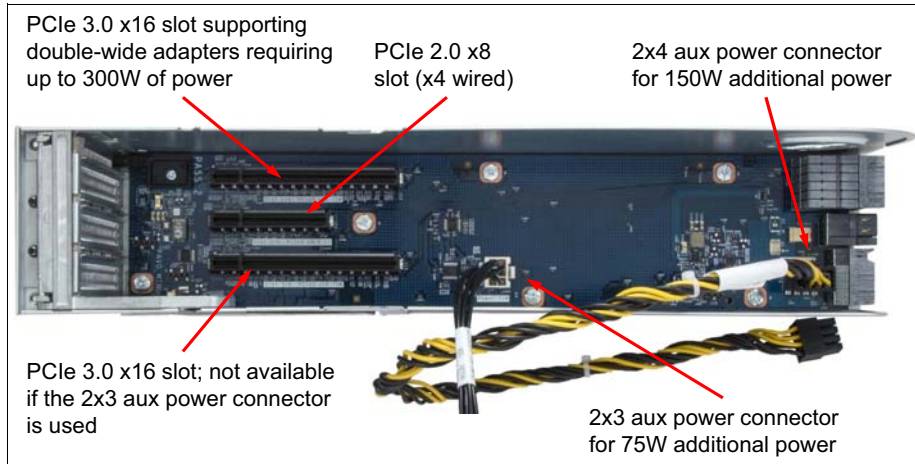

Figure 3-31 Full-length I/O Book
**Note:** The 2x3 connector is intended to be used only when one adapter is installed in the first x16 slot (the up-most slot that is shown in Figure 3-31), which requires 225 W or 300 W of power. The location of the 2x3 connector prevents an adapter from being installed in the other x16 slot.
Figure 3-31 shows the Full-length I/O Book.